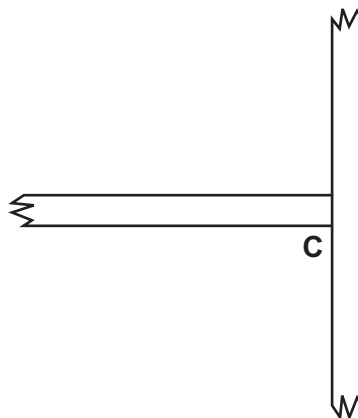

Fig. 10.4
- (ii) Using sketches and notes, complete Fig. 10.4 to show a tie at joint **C**.